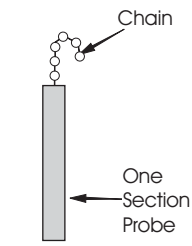

Figure 1
2. Apply a good quality pipe thread sealant to the 2” pipe threads. Insert the probe (See **Figure 1**) down into the 2” pipe nipple. Connect the probe to the transducer assembly. **For multi-section probes see instructions below.**